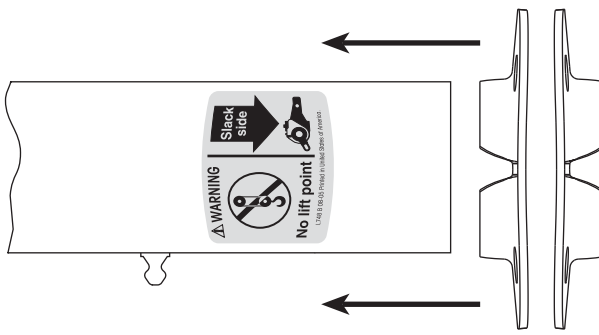

Figure 29: Install brackets back-to-back on cam tube
5. **Arrange** the two cam tube brackets (items 5 and 6, Figure 23) back-to-back (Figure 29) and **slide** them onto the end of the cam tube assembly until they contact the suspension beam.